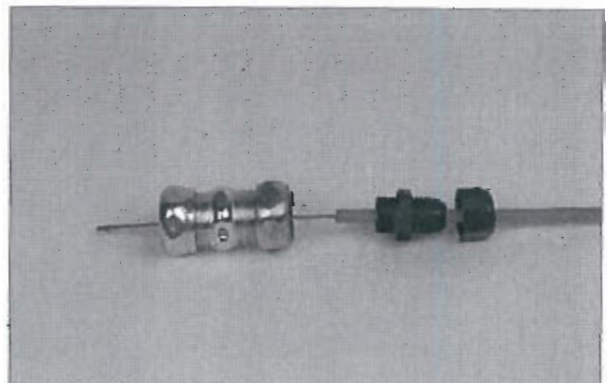

FIGURE 93
3. Tighten compression union nut onto union body, locking flexible conduit insert in place. See Figure 93.